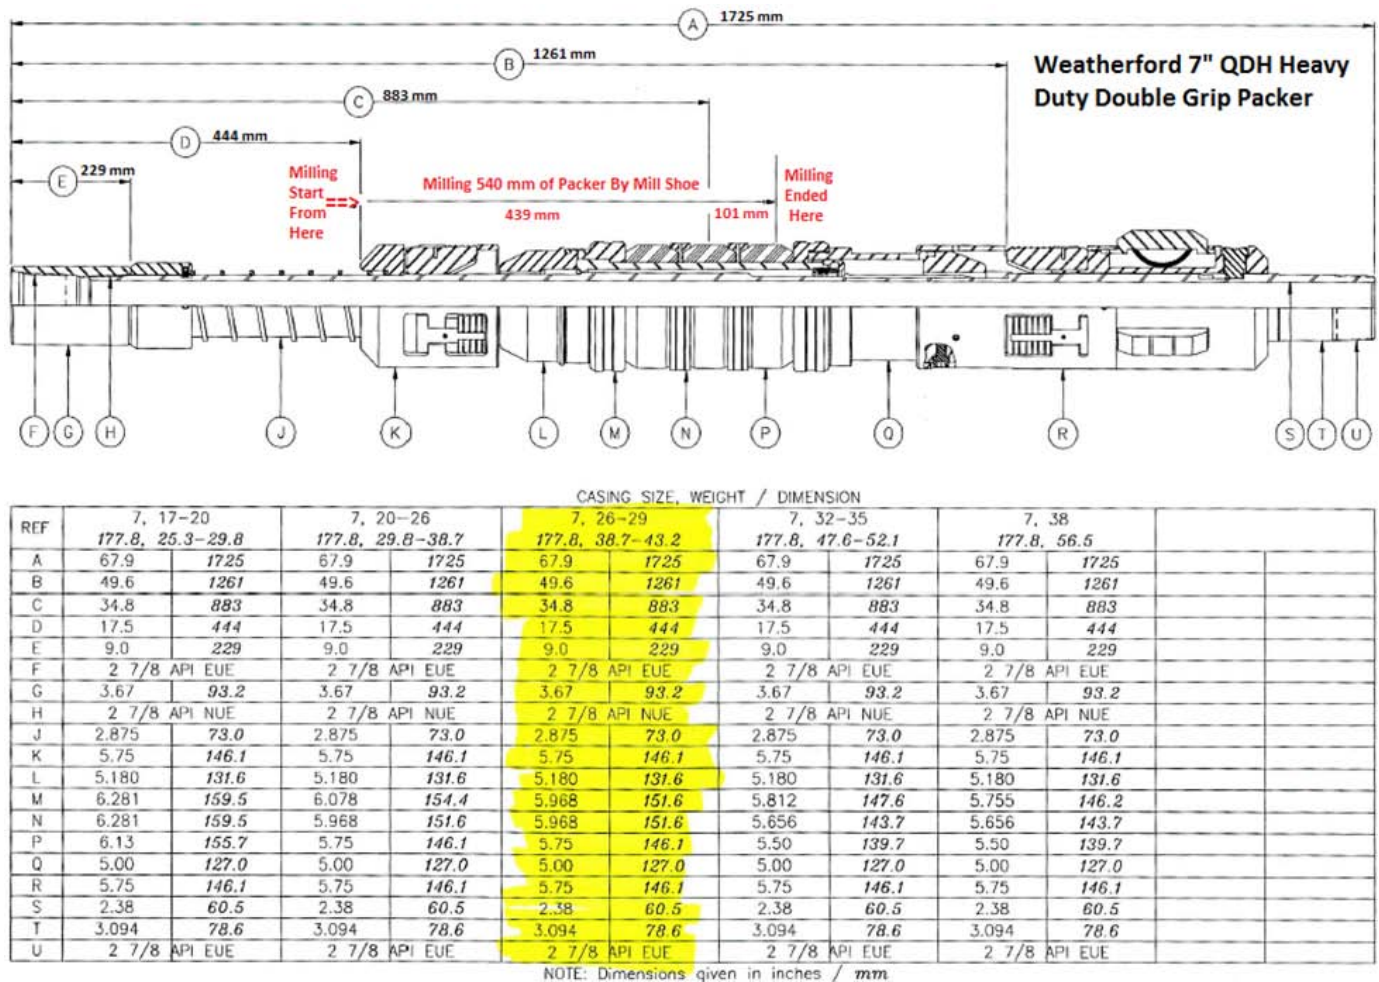

Figure 2-1 - QDH Packer Dimensions
- Packer was milled 54 cm by washover mill shoe from 1237.44m to 1237.98m (refer to Figure 2-1).
On November 1st, 2013, Investcan decided to run a milling BHA including a washover mill shoe and wash pipe extension into the well to mill the top part of the packer slip cage (Upper Dogs Elements) in order to release the packer from the casing. The washover mill shoe with 6” OD and 5” ID washed over the 0.44m top section of the packer and started milling from the section D “Slip Cage” at 1237.44m (TOF at 1237m). In total, 54cm of the packer (from 44cm to 98cm with reference to top of packer) was milled out in 33.67 hours during four milling BHA runs. Refer to Figure 2-1 for more details about the packer dimensions and milling interval.